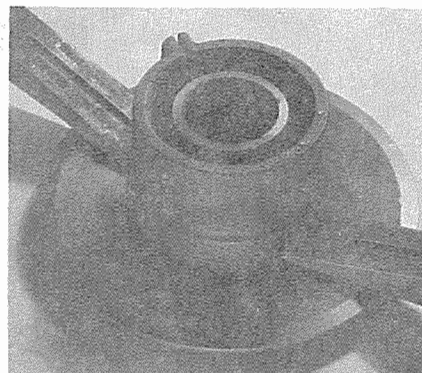

Figure 11
1. Place two tapered wedges 180 degrees apart, between the control hub and the adjustable flange assembly. See Figure 11. Tapping the wedges lightly and alternately, wedge the control hub and the bearing from the flange. Make sure that both the hub and the bearing are being removed.